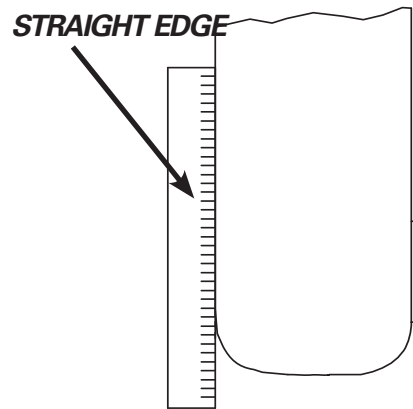

FIGURE 7-42
4. To determine how much build up is required on the front of the upper shear, place a straightedge along cutting blades and the newly maintained or replaced piercing tip. There will be a gap indicating how much build-up is required (see Figure 7-42).